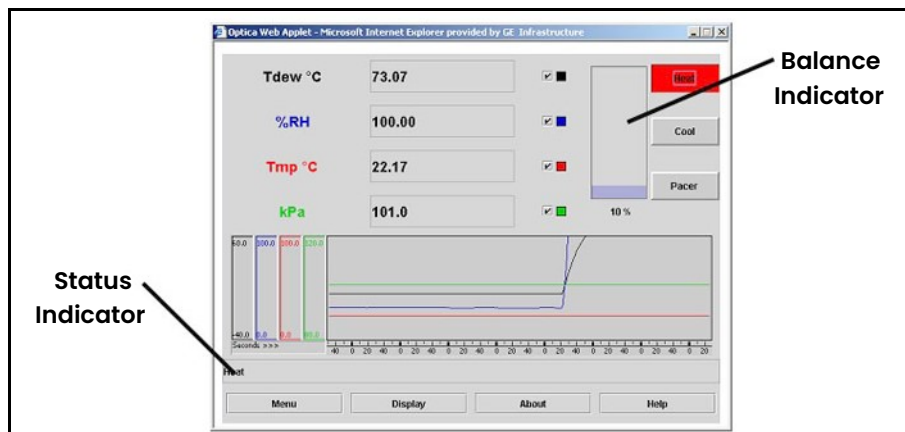

Figure 44: Balance and Status Indicator on Optica Display
- The *balance indicator* (shown in *Figure 44* below) provides a graphic display of how much light is received by the mirror's photodetector. It is also an indicator of the dew layer thickness. This indicator increases and decreases in digital steps.
1. From the Optica analyzer, press the soft-key next to the **HEAT** button, or, from the *Optica Java* applet running on your PC, move your mouse pointer over the **HEAT** button and click. The button will turn red, as shown in *Figure 44* on page 69.